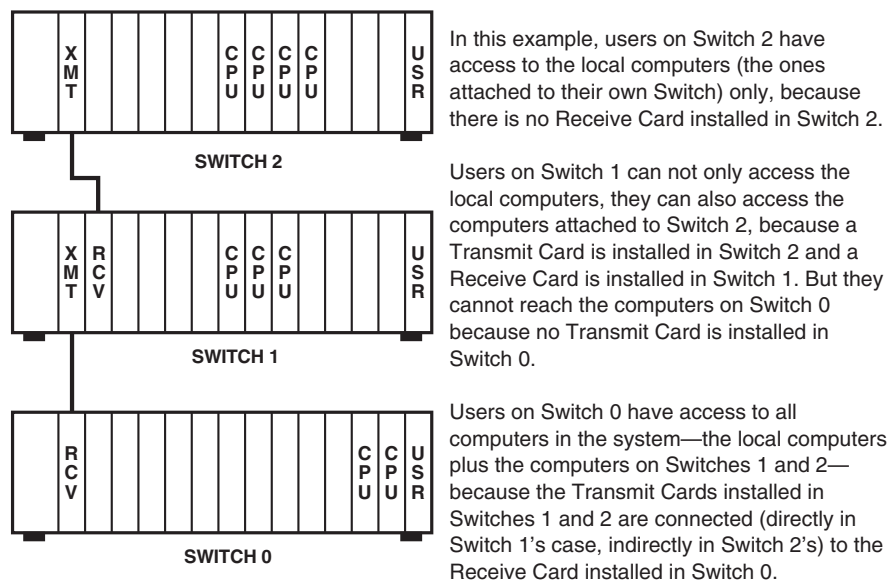

Figure 6-5. An expanded system that illustrates the Transmit/Receive mechanism.
1. In order for a computer attached to a ServSwitch Multi to transmit its video signal to consoles attached to other Switches in the system, you must install at least one Transmit Card in the computer's Switch. Refer to Figure 6-5.
2. In order for a console attached to a ServSwitch Multi to receive signals from computers attached to other Switches in the system, you must install at least one Receive Card in the console's Switch. Refer to Figure 6-5.